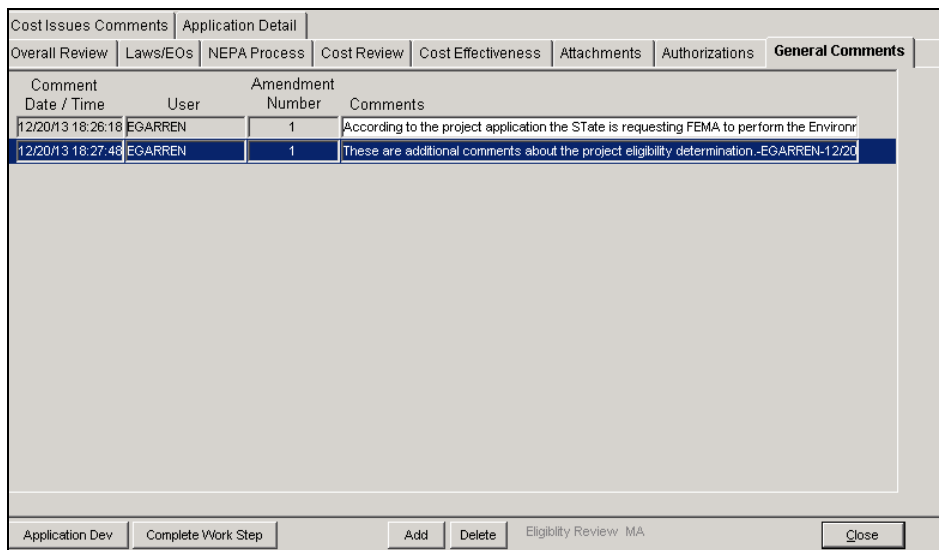

Figure 7-81: General Comments Tab with Comments Added
10. Click the OK button. The comments are now displayed in the **General Comments** tab (Figure 7-81).